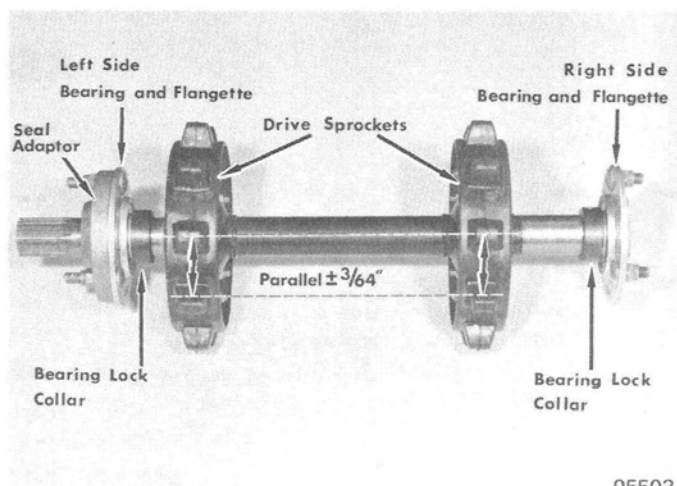

Figure 6. Sprocket Alignment
2. With sprocket retaining screws snug, use one of the following methods to check parallel alignment (Figure 6) between sprockets: